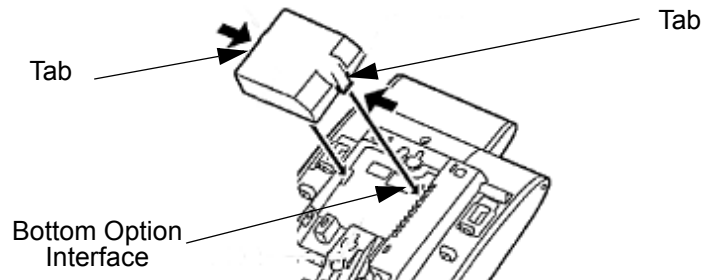

Figure 6-26 Install ADA-L UNIT
7. Using the exposed Bottom Option Interface as a guide, install the ADA-L UNIT in the bottom of the DTL/ITL multiline terminal. Push down until left and right tabs are seated (Refer to Figure 6-26 Install ADA-L UNIT).